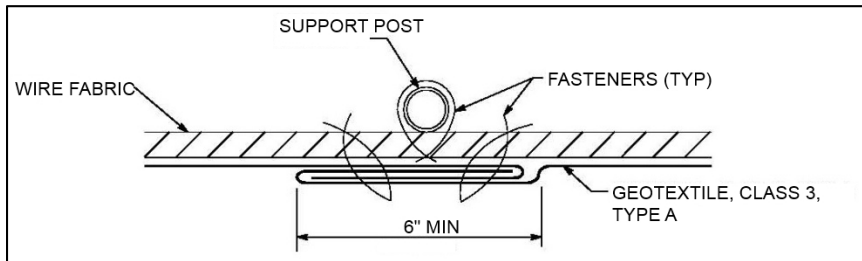

Figure 21: Geotextile Overlap Detail
- Stretch and secure geotextile to the wire fabric fence on the upslope side of the wire fabric with wire fasteners, staples, or preformed clips. It should extend a maximum of 33” above the ground surface (**Figure 21**).
- Space geotextile to wire fabric fasteners at 24” maximum center to center as shown in **Figure 21**.